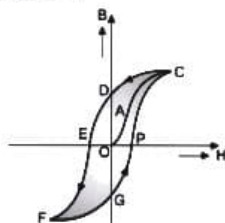

Fig. 5.3 : Cycle of magnetisation H-I curve for a ferromagnetic material
- A graph of B verses H gives a curve OAC as shown in Fig. 5.3. If we increase the magnetising force beyond the point C, B remains constant and the substance is said to be **Saturated**.